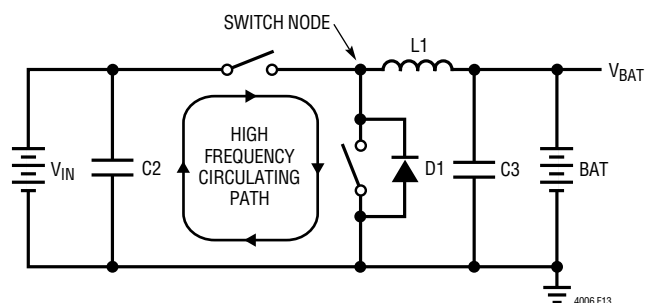

Figure 13. High Speed Switching Path
For maximum efficiency, the switch node rise and fall times should be minimized. To prevent magnetic and electrical field radiation and high frequency resonant problems, proper layout of the components connected to the IC is essential. (See Figure 13.) Here is a PCB layout priority list for proper layout. Layout the PCB using this specific order.
12. For best current programming accuracy provide a Kelvin connection from R_{SENSE} to CSP and BAT. See Figure 13 as an example.